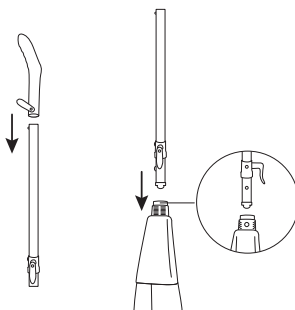

Figure 1 Figure 2
STEP 1: Insert the handle into the extension tube until it locks into position (figure 1).